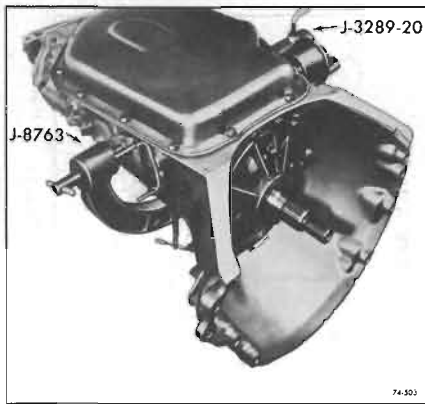

Figure 74-503
3. Install fixture and transmission into Holding Tool Base, J-3289-20, with bottom pan facing up. See Figure 74-503.